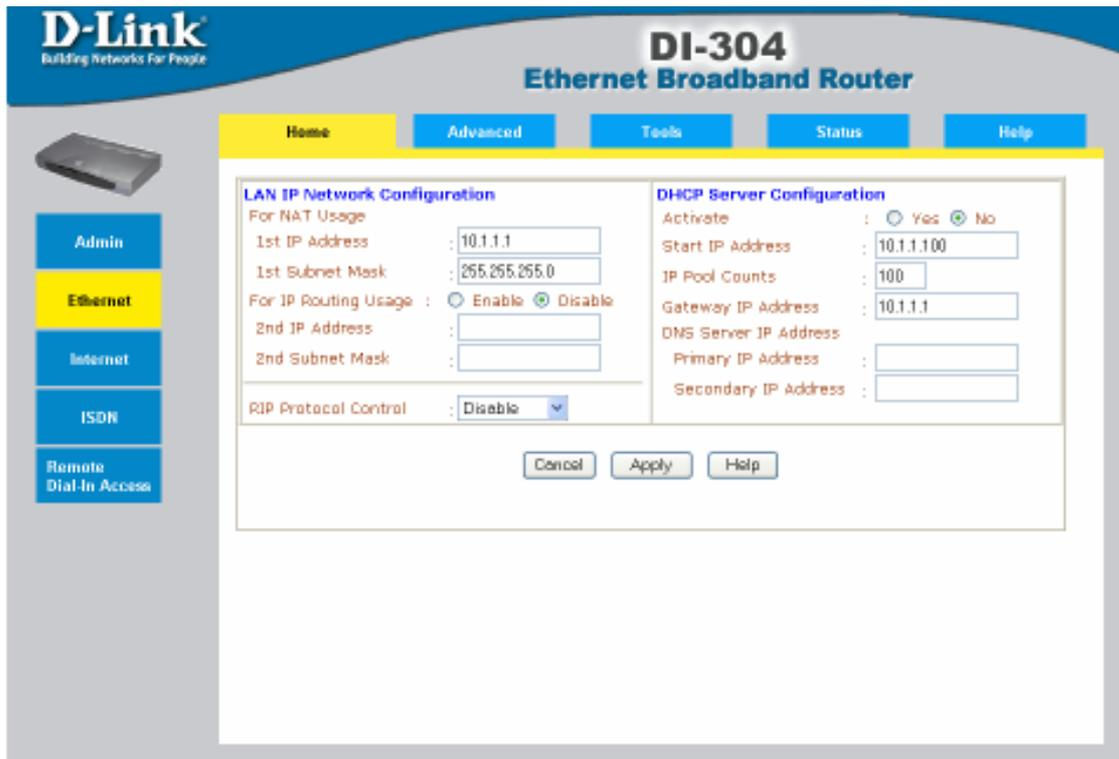
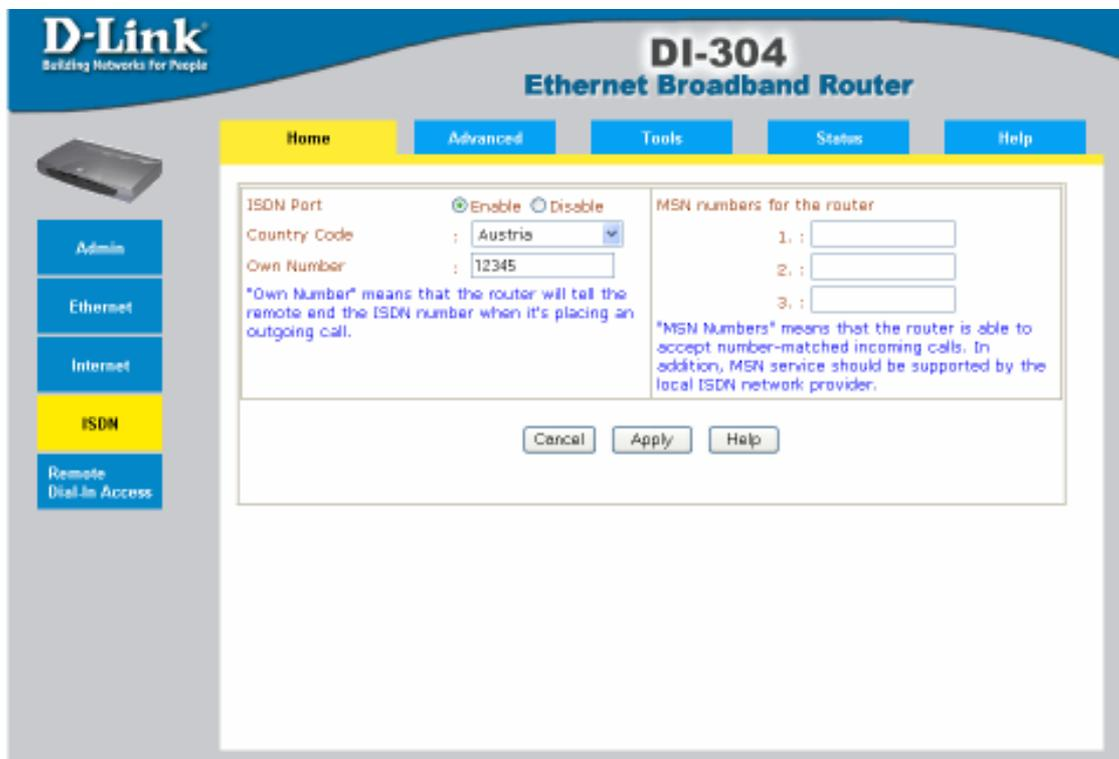

Figure 29: Ethernet configuration of ISDN Router 2
Figure 30: ISDN Configuration of ISDN Router 2
- The IP and ISDN configuration of the remote router device is shown in Figure 29 and Figure 30.